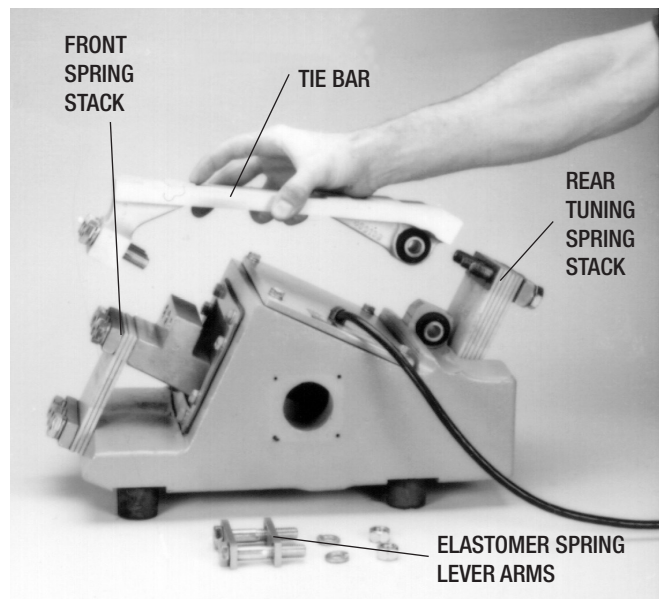

FIGURE 6
2. Remove, in order, the bolts securing (a) the upper end of the rear tuning springstack to the tiebar, (b) the lower ends of the spring lever arms to the body housing, and (c) the lower end of the tiebar to the spring bar. Lift the tray-tiebar-lever assembly away from the body housing (see Figure 6).